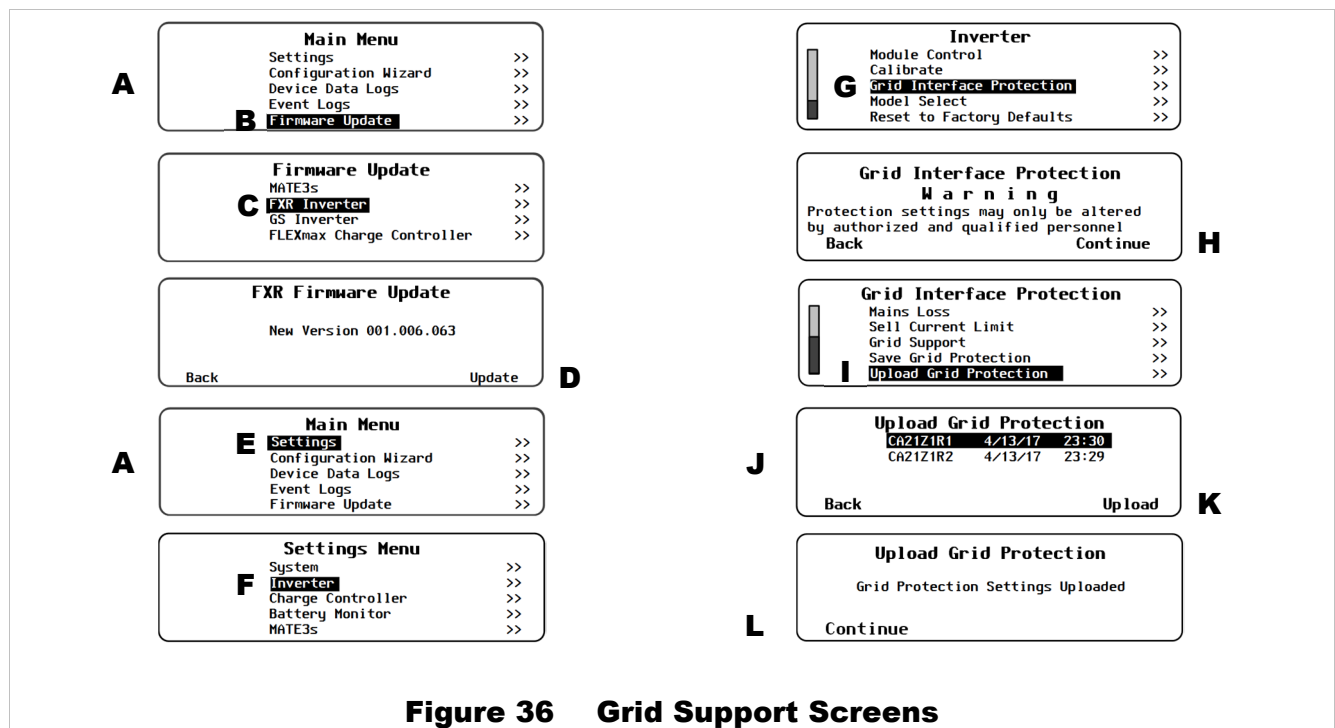

Figure 36 Grid Support Screens
2. From the MATE3s **Main Menu (A)** in Figure 36), choose **Firmware Update (B)** and then **FXR Inverter (C)**. The display will show that new firmware is present. (The revision should be 001.006.063 or greater.) Press **Update (D)** to download this firmware into the FXR inverter. This can take up to ten minutes per inverter. In certain systems it may take up to 20 minutes.